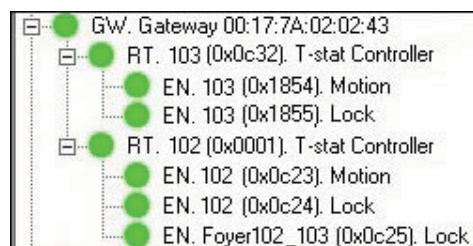

Figure C9
14. See the final **Online Network** tree in Figure C9.
When steps 1-5 below have been performed, the **Online Network** tree in SysMon will typically look as in the example in Figure C9: